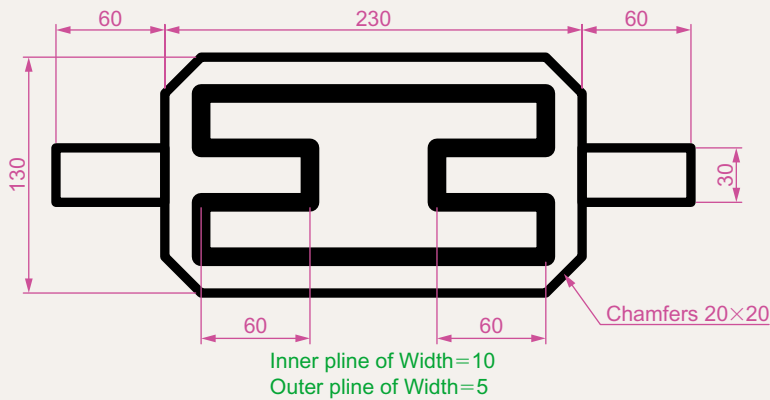

Fig. 3.54 Exercise 11
11. Construct Fig. 3.54 using the **Rectangle**, **Line** and **Edit Polyline** tools.